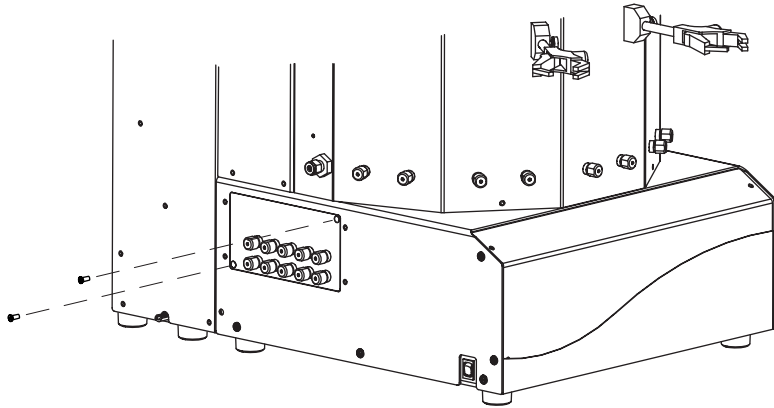

Figure 4-5 Waste port mounting plate
1. Remove the two screws that secure the waste port mounting plate (Figure 4-5). The optical assembly is located behind this plate.